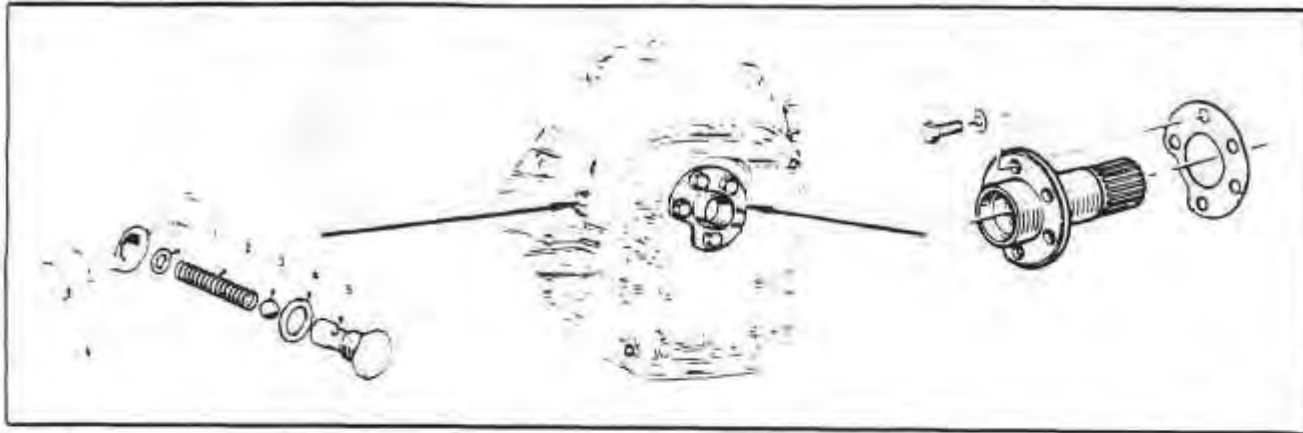

Fig. 84
2. Remove the stator shaft and gasket. *Fig. 84*
3. Remove the converter return safety valve, ball, spring, and washer. *Fig. 84*